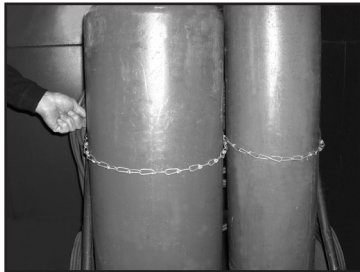

Figure 1-1: Gas Cylinders
1. Place the cylinder (Figure 1-1) where you will use it. Keep the cylinder in a vertical position. Secure it to a cart, wall, work bench, post, etc.